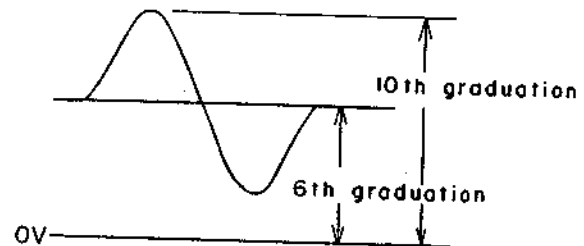

Fig. 135
- 6) Adjust with T3 so that the marker (EG = 38.9 MHz, EK = 39.5 MHz) will be at 6th graduation of the alignment scope. (Fig. 135).